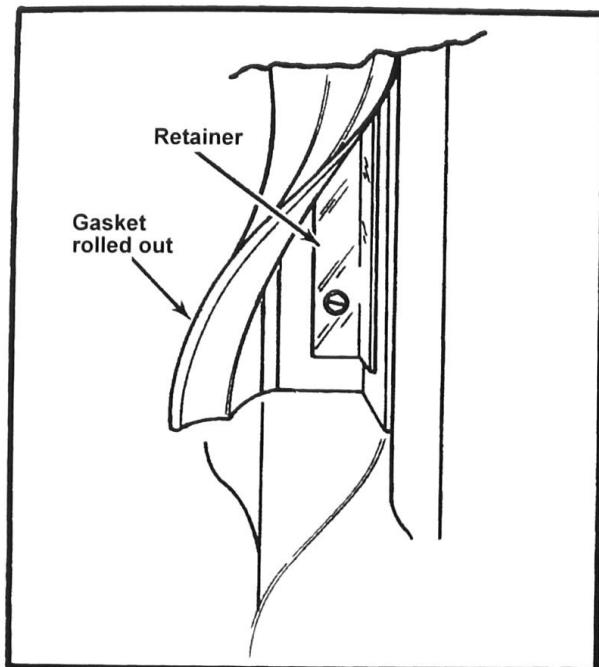

Figure 1
1. Start by removing the screw at the lower corner of either side. Roll the gasket out to remove the screw. See Figure 1.